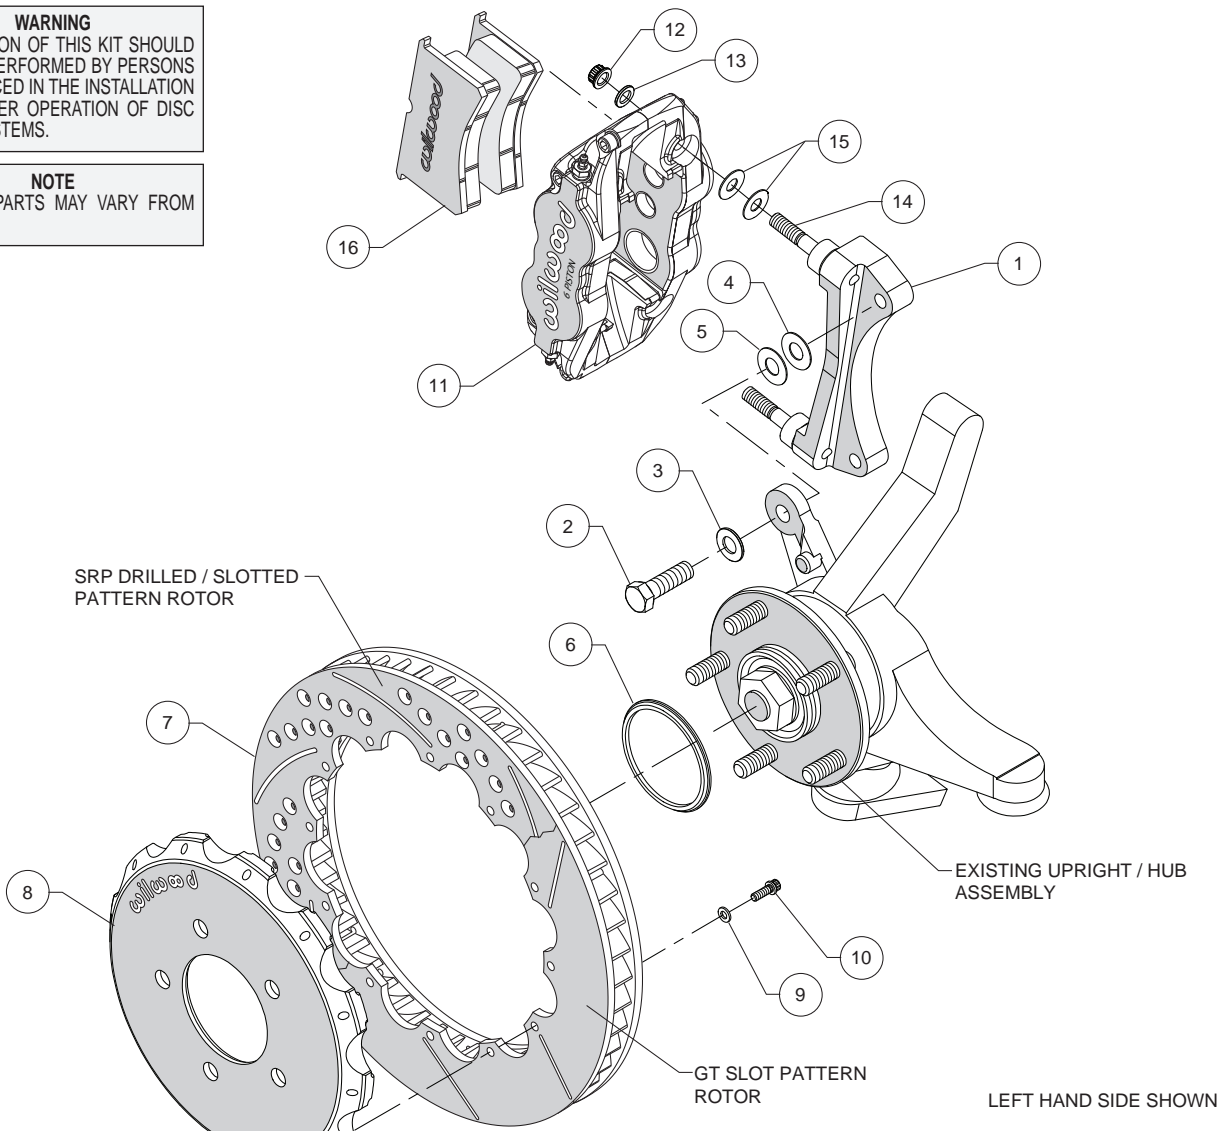
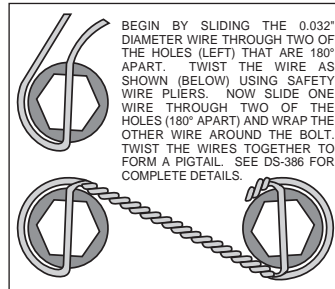

Figure 1. Typical Installation Configuration
Figure 3. Safety Wire Diagram
Assembly Instructions (numbers in parenthesis refer to the parts list and Figure 1 on the preceding pages):
- The caliper mount bracket (1) should initially be installed with clean, dry threads on the mounting bolts. Orient the bracket as shown in Figure 1 and Photo 1, and install using mounting bolts (2) and washers (3). Initially place one each .033" thick shim (4), and .015" thick shim (5) on each bolt between the bracket and upright, Figure 1. Temporarily tighten the mounting bolts. **NOTE:** The bracket must fit squarely against the mount bosses on the upright. Inspect for interference from casting irregularities, machining ridges, burrs, etc. Later, after the caliper alignment has been checked, the mount bolts will be secured using red *Loctite*® 271.
- Orient the rotor (7) and the hat (8) as shown in Figure 1 and Photo 2. Attach rotor to hat using bolts (10) and washers (9). Using an alternating sequence, apply red *Loctite*® 271 to the threads and torque bolts to 155 in-lb. For an added measure of security, the bolts may be safety wired using standard 0.032 inch diameter stainless steel safety wire as shown in Figure 3. Please refer to Wilwood's data sheet DS-386 (available at www.wilwood.com/Pdf/DataSheets/ds386.pdf) for complete safety wire installation instructions.
- Slide the rotor registration adapter (6) onto the axle register on the axle hub with the smaller O.D. facing outward, Photo 3. Slide the hat/rotor assembly onto the axle hub. **NOTE:** The hat must fit flush against the axle hub flange or excessive rotor run out may result. Install three lug nuts (finger tight) to keep the hat/rotor assembly in place while continuing with the installation.
- NOTE:** This kit contains distinct right and left hand calipers that must be mounted in a specific direction, as described below. Lubricate the caliper mounting studs (14) with lightweight oil. Initially place two .035" thick shims (15) on each stud as shown in Figure 1 and Photo 4. Mount the caliper (11) onto the bracket (1) using lock nuts (12) and washers (13), Figure 1 and Photo 5. Ensure that the caliper is mounted so that the largest pistons are at the rotor exit end of the caliper, in relation to the direction of rotor rotation. Temporarily tighten the lock nuts and view the rotor through the top opening of the caliper. The rotor should be centered in the caliper, Photo 6. If not, adjust by adding or subtracting shims (4 and/or 5) between the bracket and the upright. Always use the same amount of shims on each of the two mounting bolts. Once the caliper alignment is correct, remove the bracket mounting bolts one at a time, apply red *Loctite*® 271 to the threads, and torque to 60 ft-lb.